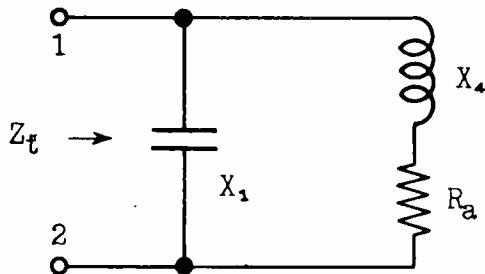
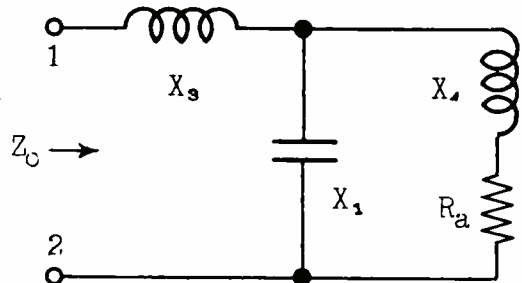

Fig. 1.
Fig. 2.
1. (A) When coupling a transmission line to an antenna, what two conditions must be satisfied by the coupling network?
(B) In the circuit of Fig. 1 the magnitudes of X_1 and X_4 are equal. Develop the mathematical formula for the impedance Z_t looking into the circuit from points 1 and 2.
- (C) What part of the formula, developed in 1(B) represents the resistive component of Z_t , and what part represents the reactive component?
(D) In Fig. 2 the values of X_1 , X_4 and R_a are identical with those in Fig. 1. Write the expression for the reactance of X_3 that will make the impedance looking into the network at terminals 1 and 2 purely resistive in character.
(E) Write the expression for X_1 in terms of Z_0 and R_a . (Fig. 2)